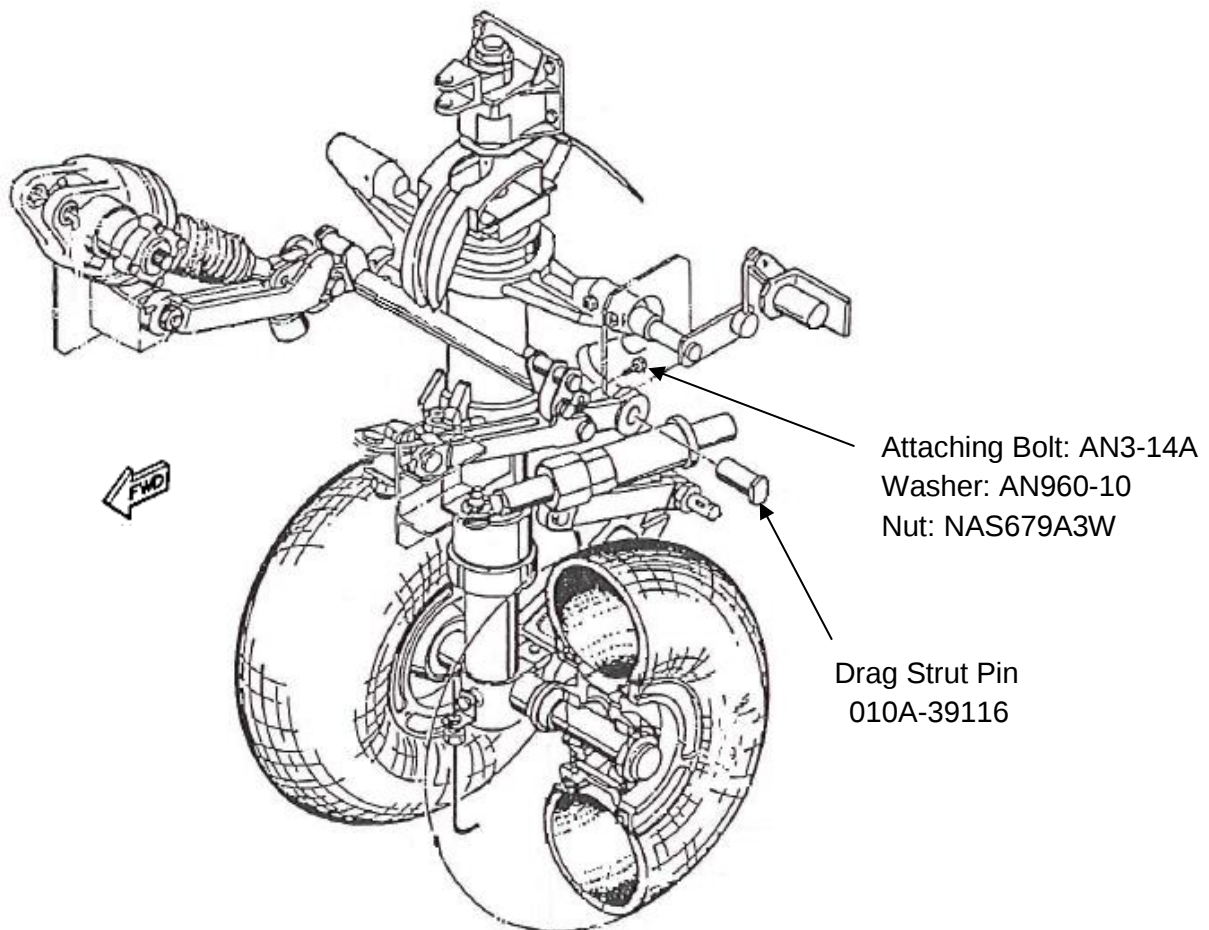

Figure 10: Drag Strut Pins and Attaching Bolts
- (1) Clean LH and RH Drag Strut Pins and visually inspect for wear, cracks, deformation or corrosion. (Figure 10)
At step (16) of reinstalling Drag Strut Pins, the following applies (Figure 10):